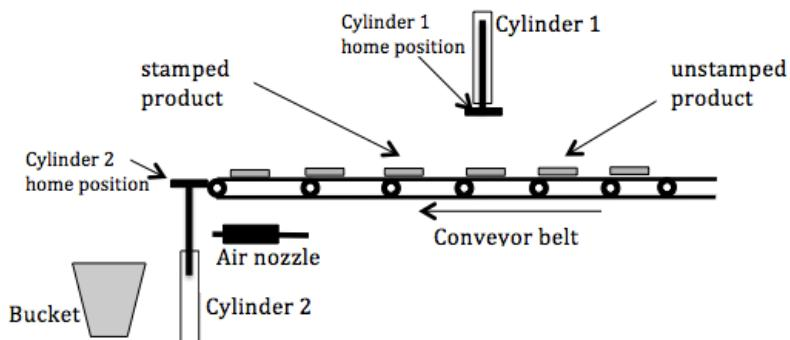

Figure Q2
- [c] Figure Q2 shows the proposed diagram of a semi-automated system. Cylinder 1 is a single acting cylinder that is used to stamp the product. Draw a pneumatic circuit with complete symbols that uses hand-triggered valve to activate the cylinder. Upon activation, cylinder 1 extends and then stamps the product and returns after stamping. Based on your proposed circuit, briefly explained how the system works.
- [d] In Figure Q2, when the product reaches cylinder 2 home position, the operator triggers a second valve. Cylinder 2 brings the product down from its home position and eventually the air nozzle blows the product into the bucket. Assuming cylinder 2 is a double-acting cylinder; draw a pneumatic circuit with complete symbols that uses a solenoid valve to activate the cylinder. Base on your proposed circuit, briefly explained how the system works.